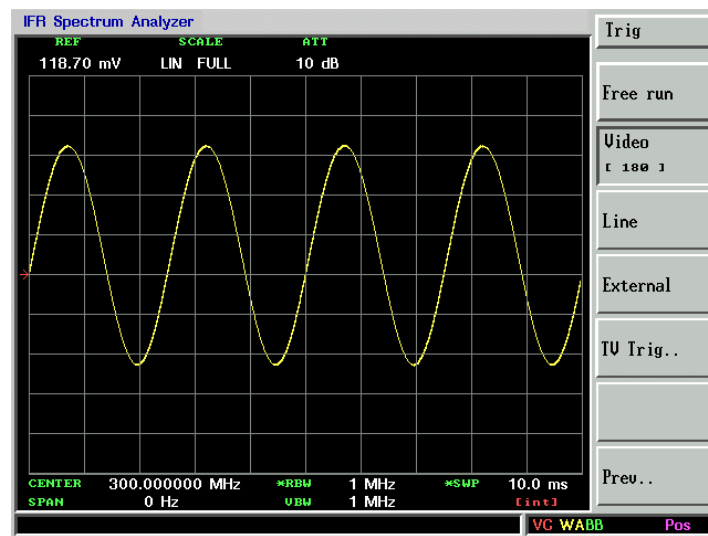

Figure 2-25. Measuring Modulation in Zero Span.
11. Adjust the sweep time to change the horizontal scale by pressing **CPL**, **Swp Time [MNL]**, **Swp Time**, 10 ms. See Figure 2-25.